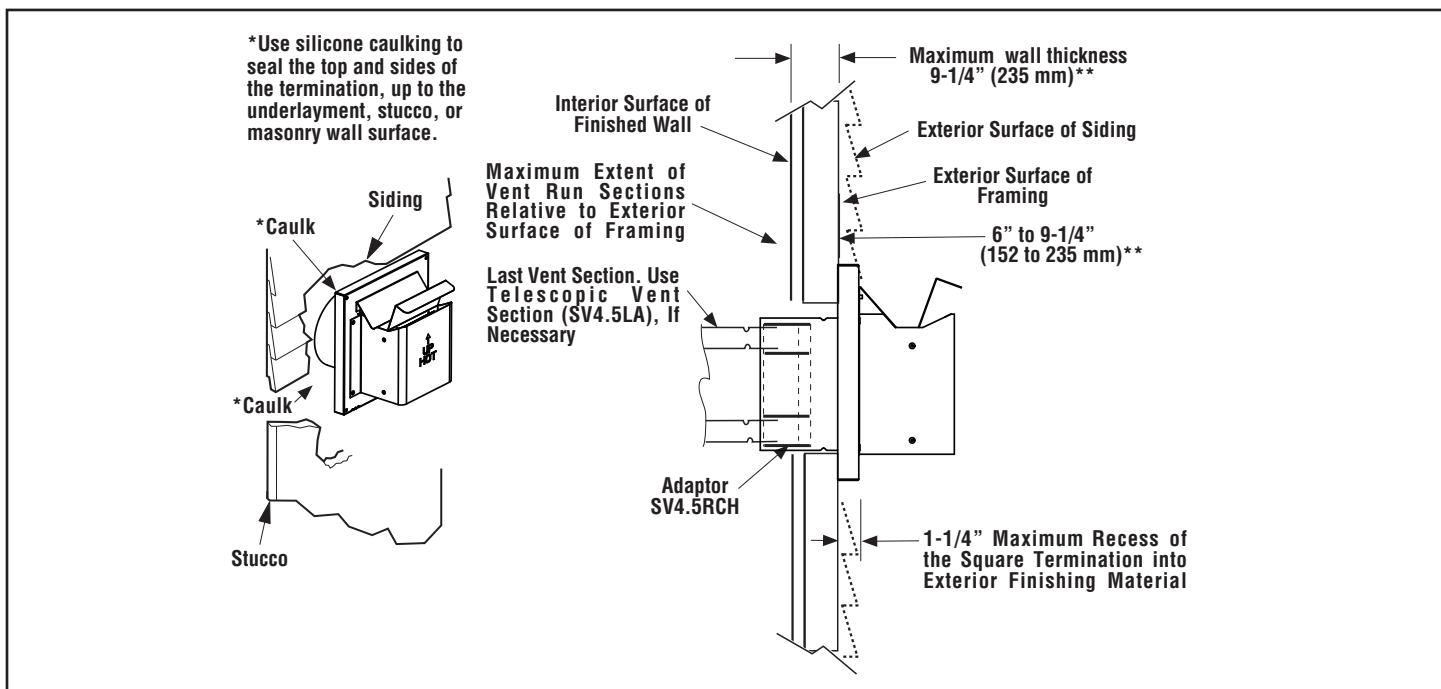

Figure 10 - Venting Connection and Exterior Wall Recessing of the Horizontal Compact Termination (SV4.5HTKCT)
- 1. Install the termination (SV4.5HTKCT)—**From outside the exterior wall, slide the collars of the termination onto the adaptor (the outer over the outer and the inner inside the inner) until the termination seats against the exterior wall surface to which it will be attached. Orient the housing of the termination with the arrow pointed upwards. Secure the termination to the exterior wall. The horizontal termination must not be recessed into the exterior wall or siding by more than the 1-1/4" (32 mm) (**Figure 10, Page 16**).